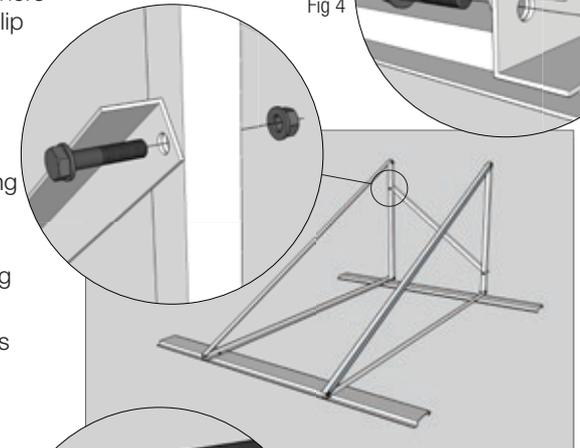

Fig 5
8. Position the back brace (short length angle) across the square legs on an angle and fix into position using the existing holes with the supplied M8 bolt, nut and washer (Fig 5)